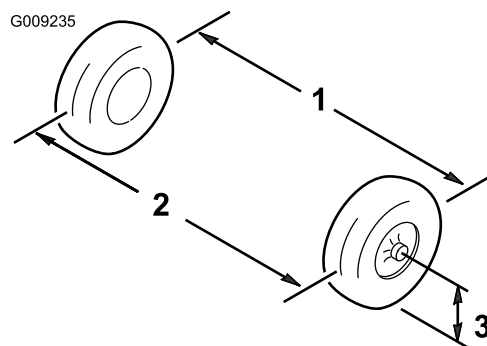

Figure 32
3. Measure the distance between both of the front tires at the axle height at both the front and rear of the front tires (Figure 32).